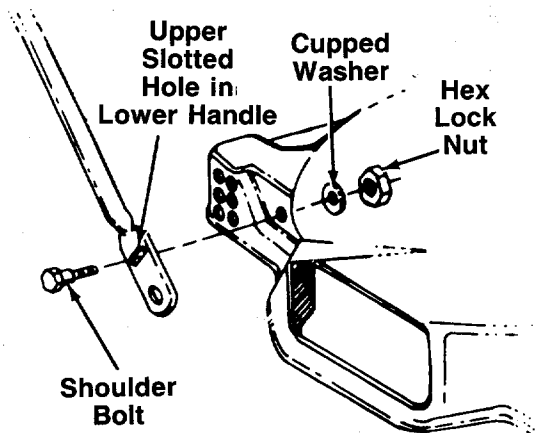

FIGURE 1.
- ➡ See figure 1. Place cupped washer on the shoulder bolt, with the cupped side of the washer against the deck. Secure with hex lock nut.